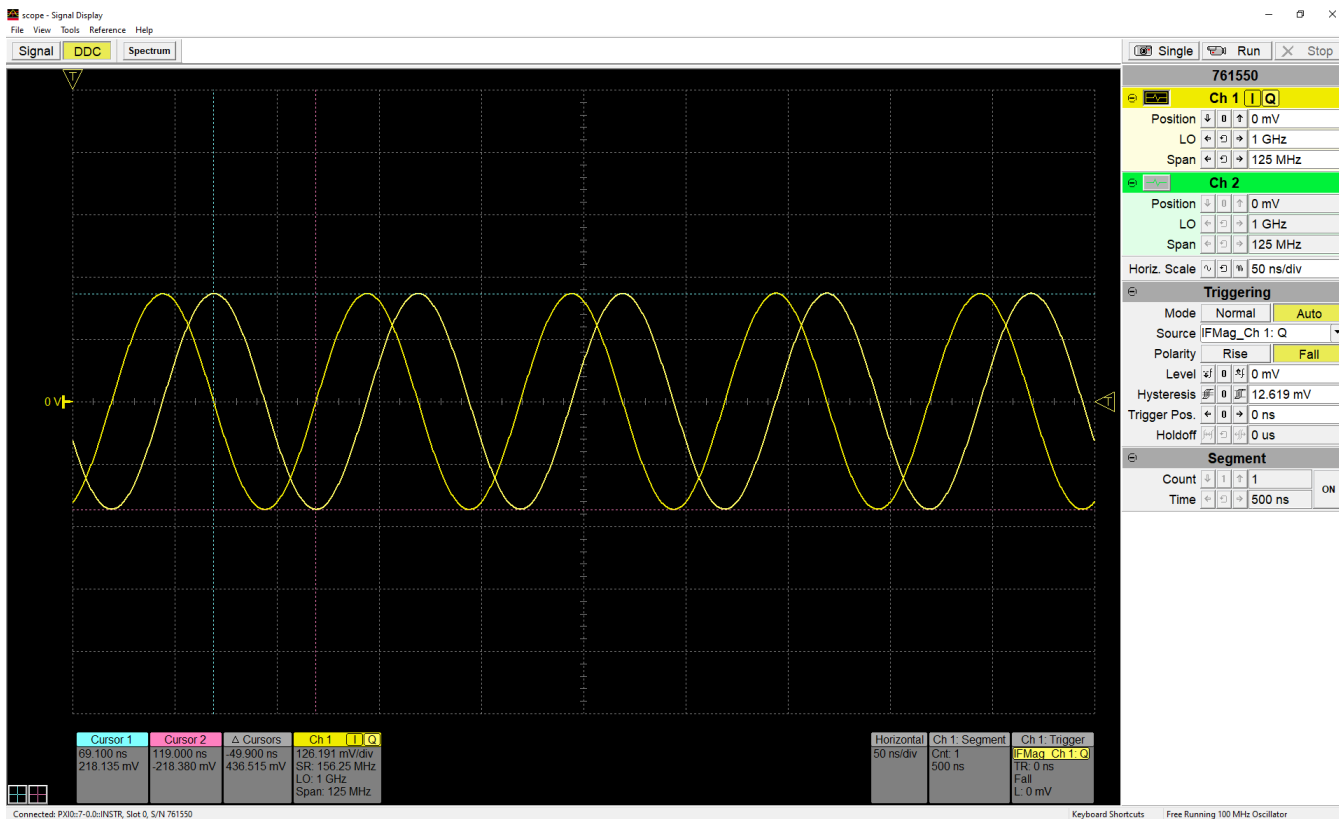

Figure 23. DDC signal (time domain) display with software control panel
- DDC Display mode - to observe down converted signal in time domain (See Figure 23)